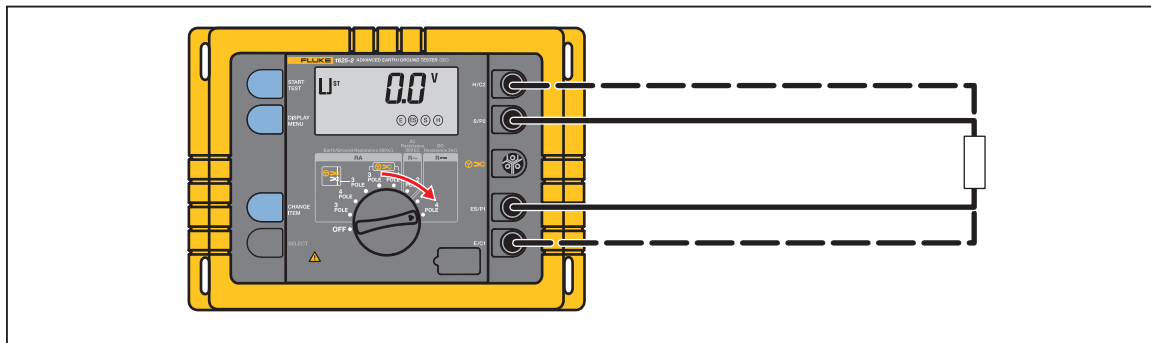

Figure 13. Resistance Measurement (R_{∞})
1. Connect instrument as shown in Figure 13.